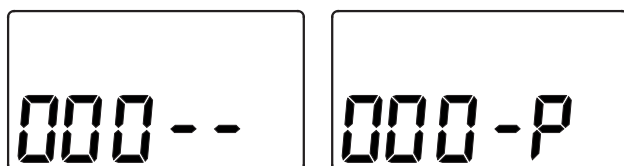
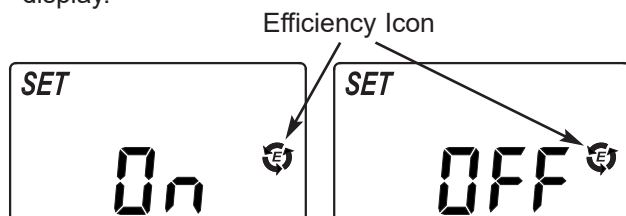

FIG. 35
FIG. 36
1. Press and hold the SELECT button until one of the screens in Figure 35 is displayed. Once in this display, press the SELECT button once and one of the two displays in Figure 36 is shown.